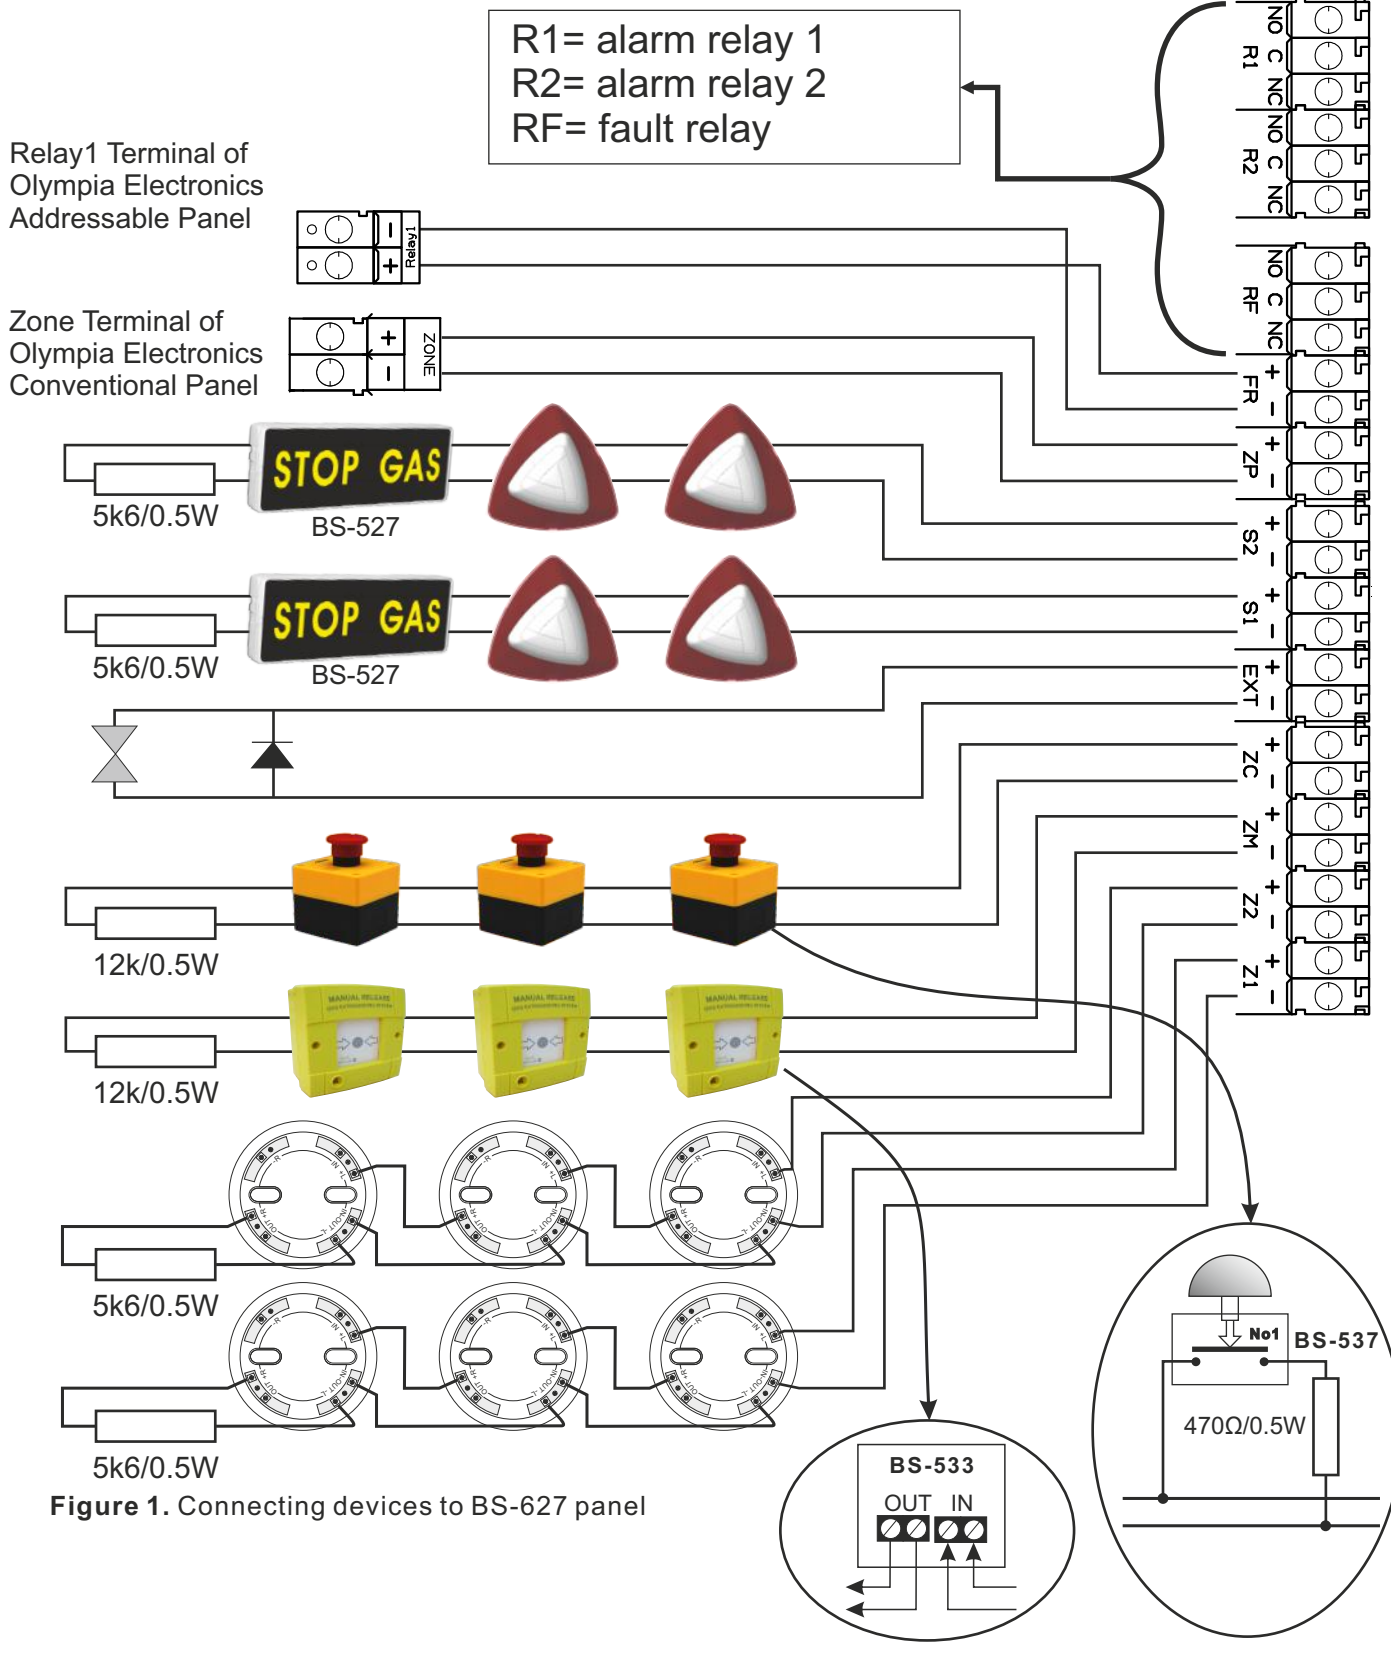

Figure 1. Connecting devices to BS-627 panel
ZONE IN (ZP): This output can be used to communicate with a conventional panel BS-632, BS-634 or BS-636. The connection is shown in figure 1.
Output FR. This output is used to be connected with the output Fire Routing of the BSR-2104 and BSR-2114 as shown in figure 1.